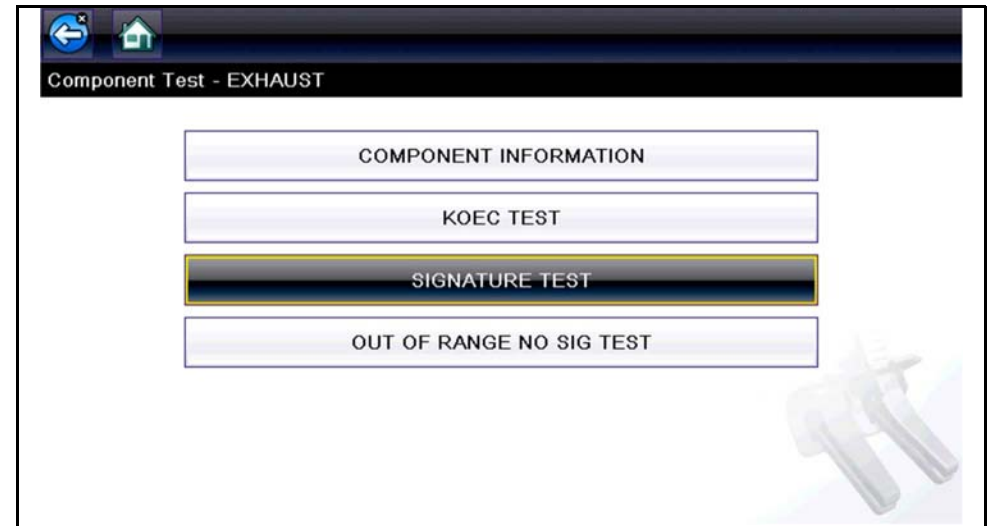

Figure 4-11 Component Test Menu
2. Select a **Test** from the Component Test menu (*Figure 4-11*).